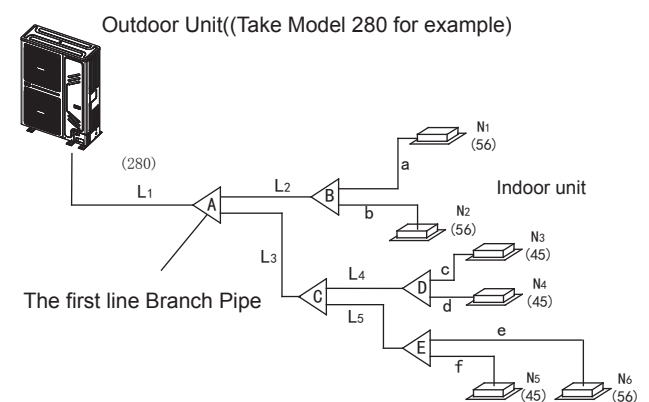

Fig. 4-6
- Main pipe (Please refer to Fig.4-6 and Table 4-4)
In Fig.4-6, the main pipe L1, the outdoor unit capacity is 28kW, and check the Table 4-4 to get the size of gas pipe/liquid pipe is $\Phi 22.2/\Phi 9.5$, and also the total equivalent length of liquid side and gas side pipes is $> 90\text{m}$, then check the Table 4-4 to get the size of gas pipe/liquid pipe is $\Phi 25.4/\Phi 12.7$, and according to the maximum value principle, it should apply the $\Phi 25.4/\Phi 12.7$.